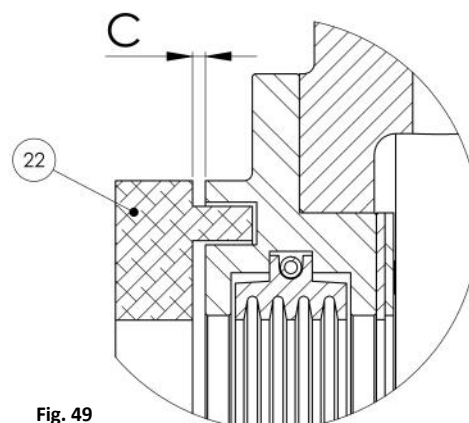

Fig. 49
- Adjust the clearance "c", see (Fig. 49).